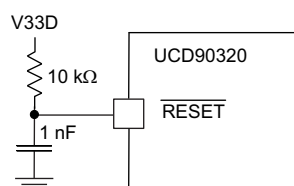

Figure 1.  $\overline{\text{RESET}}$  With R-C Network
- If an application does not use the  $\overline{\text{RESET}}$  signal, the  $\overline{\text{RESET}}$  pin must be tied to V33D, either by direct connection to the nearest V33D pin, or by an R-C circuit as shown in Figure 1.
- The  $\overline{\text{RESET}}$  pin must have a 10-k $\Omega$  pullup resistor to V33D and 1-nF decoupling capacitor to ground as shown in Figure 1. The components should be placed as close to the  $\overline{\text{RESET}}$  pin as possible